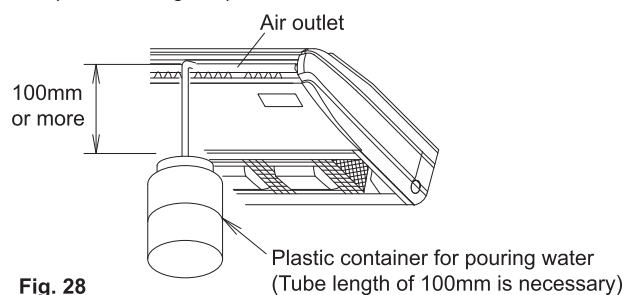

Fig. 28
- (2) After piping is finished, check if the drain flows smoothly.
- Gradually put about 0.6 liter of water for drain confirmation into the drain pan from the air outlet. (Refer to Fig. 28)